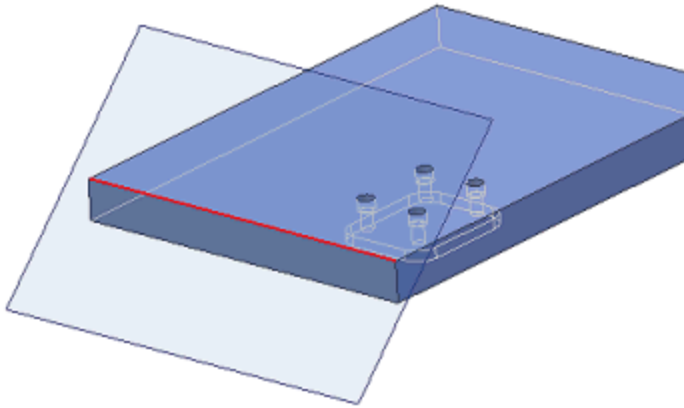

Figure 10: Work plane creation.
1. From the Features Panel Bar, click the Work Plane tool. Create a work plane through the edge shown in Figure 10, at -45 degrees to the top face.